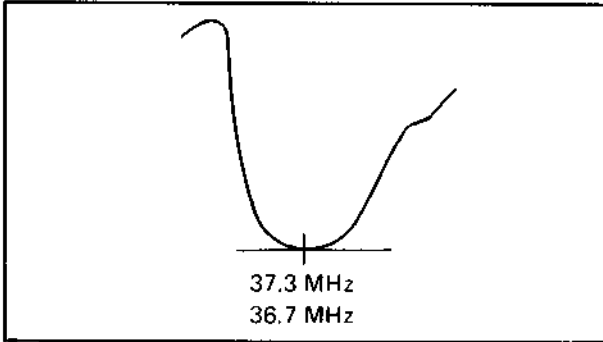

Fig. 5-44
- Adjust the core of T105 so that the waveform becomes round and symmetrical at around 37.3 MHz (HR-3660EK), 36.7 MHz (HR-3660EG) as shown in Fig. 5-44.
- Adjust C116 (trimmer cap.) so that the waveform height becomes 62.5% of the peak level at the 35.07 MHz and 39.5 MHz (HR-3660EK), 34.47 MHz and 38.9 MHz (HR-3660EG) markers as shown in Fig. 5-44.